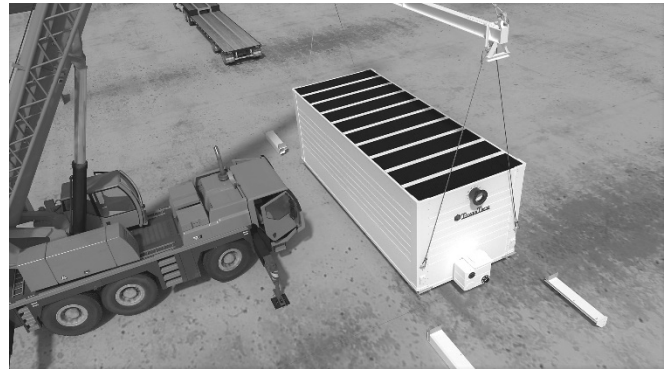

Figure 24
2. Lay each of the four legs on the ground with the hinge pointing up (Figure 24).